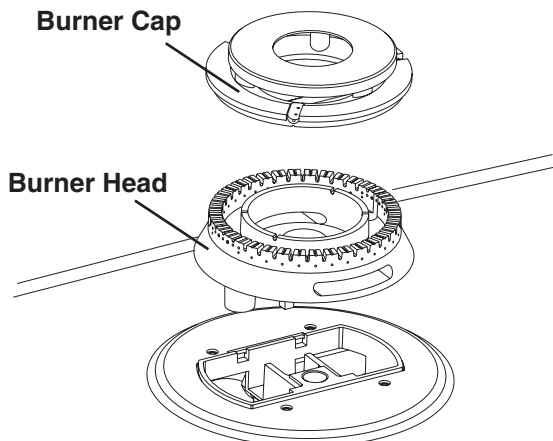

Figure 14
- C. **Triple Burner (if equipped):** Remove all tapes from burner cap. Remove the burner cap and head. Remove and discard the packaging material. Replace head and cap on the triple burner. **Be careful not to damage the electrode while placing the head over the orifice.** Make sure electrode fits correctly into slot in burner head (see Figure 14).